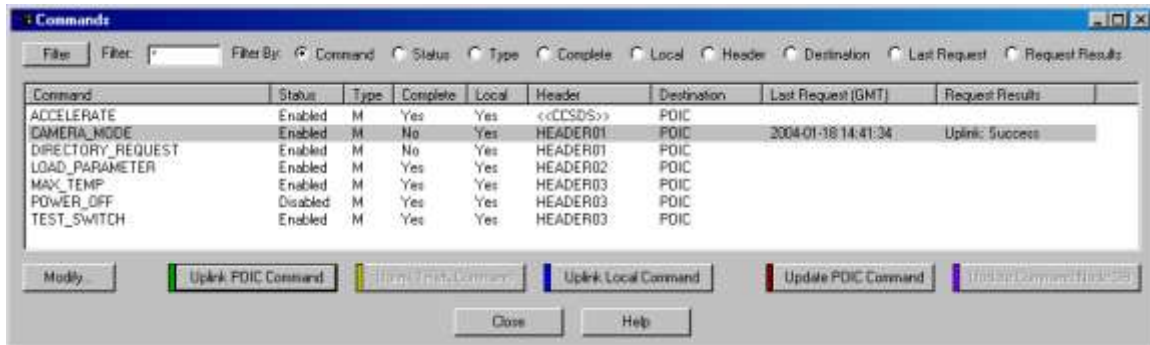

Figure 31 Commands Dialog
1. Go to the **Command Processing** application, select the **Command** menu, and then select the **Commands** menu item. This will display the Commands dialog shown in Figure 31.